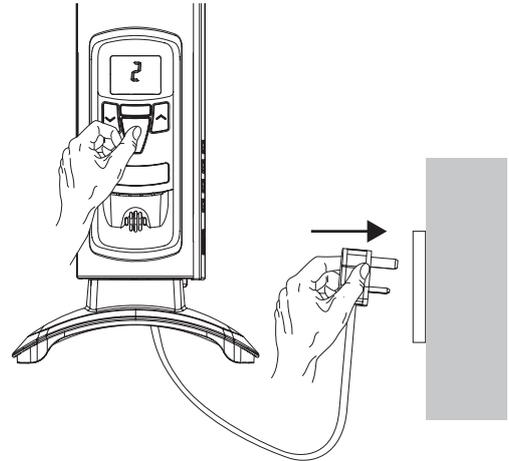

Fig. 5
1. The product must be first switched off and then switched on, this can be done by plugging in the appliance - see Fig. 5 or by switching it on at an isolator switch. At the same time press and hold the  key for at least 2 seconds after main power is applied.